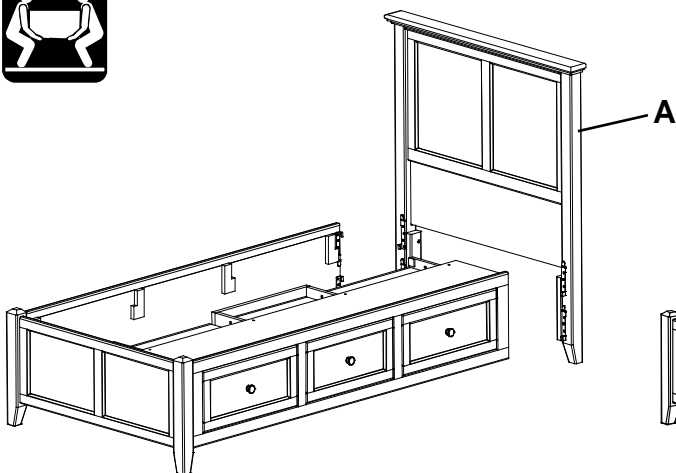

Fig. 4
- Move your Twin Headboard (A) or Twin Bookcase Headboard (Ed) into position. Make sure the drawers are opening on the side you desire. If you are satisfied, align and slide the brackets of the Bed Assembly on to the brackets of the Headboard (A or Ed). If you are not satisfied with the drawer position, remove the Footboard (YB) from the Bed Assembly and install at the opposite end. Attach the Headboard (A or Ed). See Figures 4 or 4a.